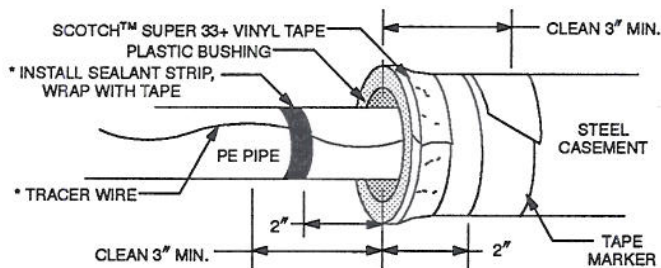

Figure 2
- 3 Install appropriate bushing into end of steel casement. Wrap with Scotch™ Super 33+ Vinyl Tape. (Figure 2)